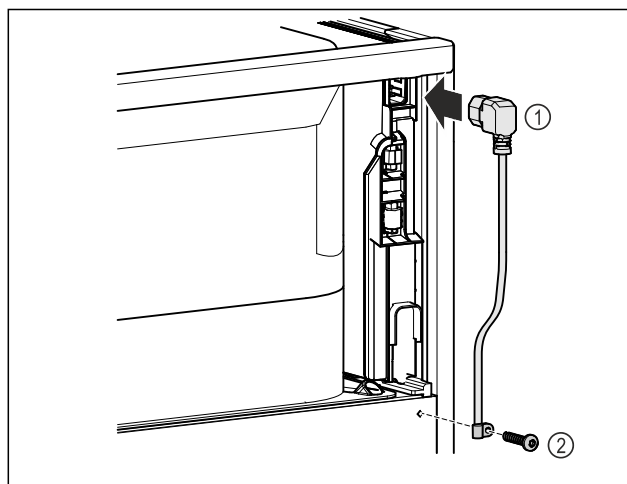

Fig. 7
- ▶ IEC socket of the power cable Fig. 7 (1) on the rear side of the appliance.
- ▶ Install mains tension relief. Fig. 7 (2)